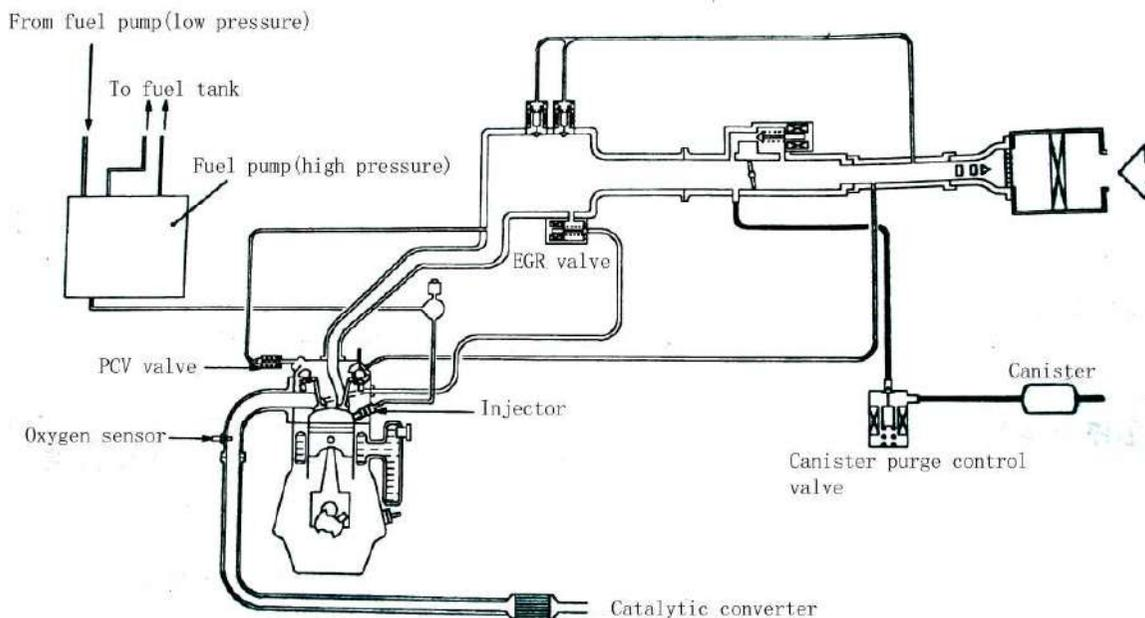

Fig. 10-3
(1) SYSTEM DIAGRAM (see Fig. 10-3)